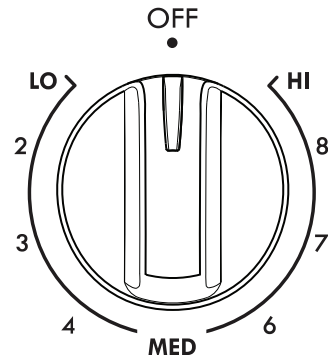

Figure 4: Single radiant element control
2. Push in and turn the surface control knob in either direction to the desired setting (Figure 4).